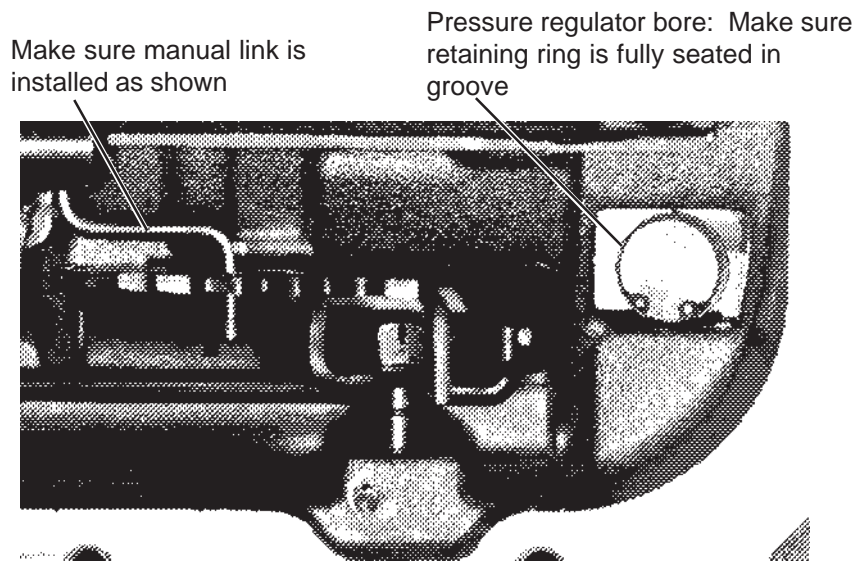
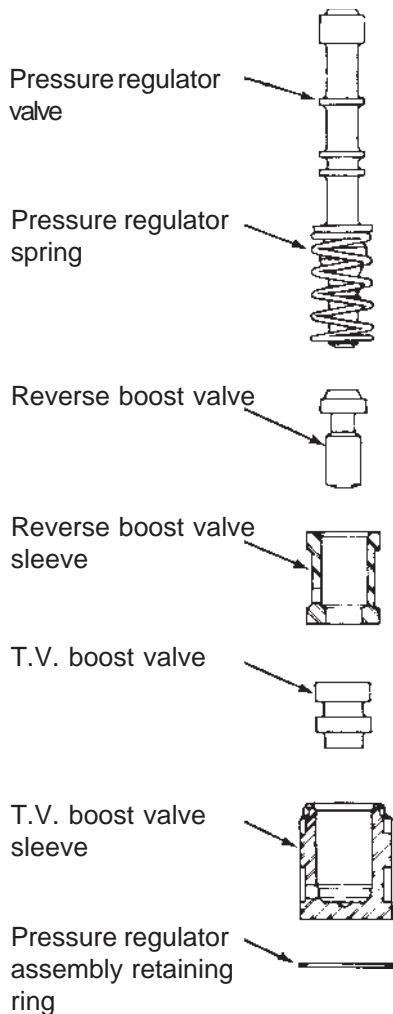

Fig. 3. Pressure Regulator Bore.
Fig. 4. Pressure Regulator Assembly.
STEP 6. All Performance Levels; Pressure regulator. Remove the snap ring at the end of the pressure regulator bore in the oil pump assembly (See Fig. 3.) Use a screwdriver to hold the pressure regulator assembly while removing the retaining ring. If the sleeves stick in the bore, lightly tap the sleeve with a small rod and a mallet (piece of 2X4). Remove two sleeves with valves, the pressure regulator spring and valve. Reassemble the pressure regulator assembly using the **BLUE** spring supplied with the kit (See Fig. 4.) Use the new retaining ring from the kit. **Important:** Make sure the retaining ring is firmly seated in its groove when assembled.